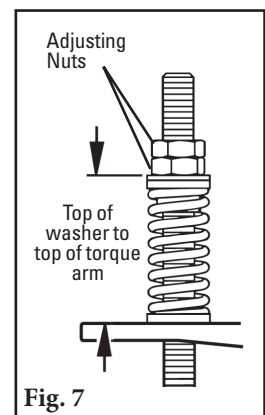

Fig. 7
16. Set the correct blade tension. Refer to the chart on the pivot shaft bracket (also shown below) for the spring length required for the belt width. Lightly pull the pivot arm toward the end of the torque arm slot nearest the pole and turn the adjusting nuts until the required spring length is achieved (Fig. 7). Lock the top adjusting nut.